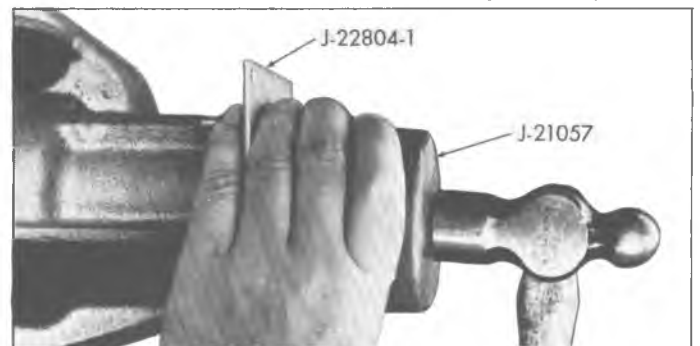

Fig. 61—Pinion Oil Seal Installation
3. Use J-21057, as shown in figure 61, to press seal into carrier bore until gauge plate is flush with the carrier shoulder and seal flange. Turn gauge plate 180° from installed position; seal must be square in carrier bore to seal properly against pinion flange.